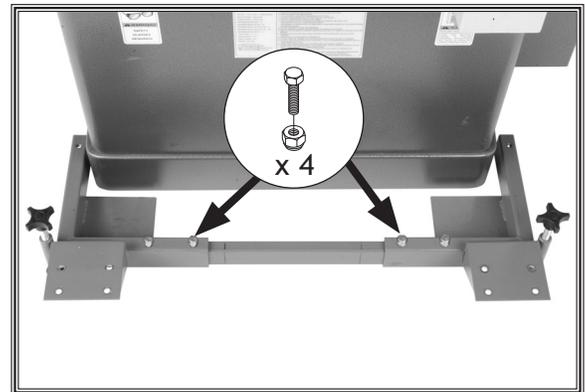

Figure 14. Rail secured to brackets.
5. Secure the rail to the corner brackets with (4) M8-1.25 x 16 hex bolts, and 8mm lock nuts, as shown in **Figure 14**.